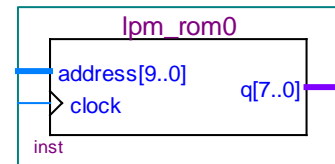

Figure 1: An lpm_rom component.
9. Place your ROM device somewhere in your “.bdf” window. You should see something like Figure 1 when you try to place the component onto your schematic: